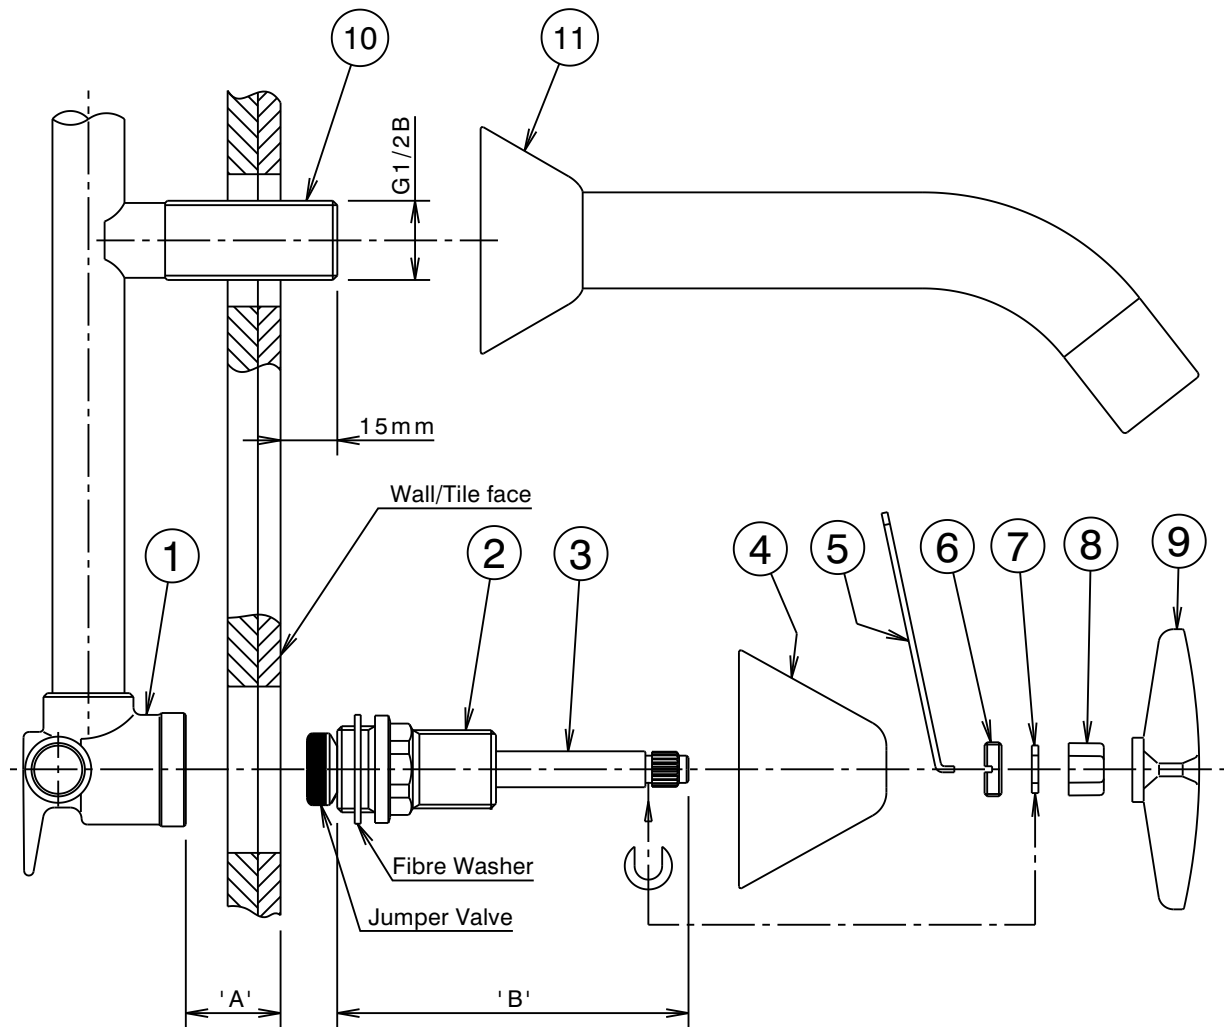

Fig. 1
- 1) Check in-wall depth (dimension 'A' in Fig. 1) to ensure correct length spindle (3) has been selected (see Table 1).
- 2) Check seats in recess tap bodies (1) are in good condition and free of foreign materials. Reseat if required.